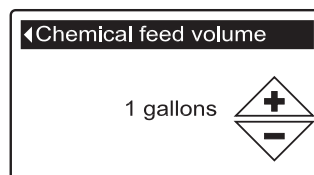

FIG. 75
7. Press the SELECT (O) button to display the Chemical feed volume or Chemical feed timer menu (See Figures 75 & 76).